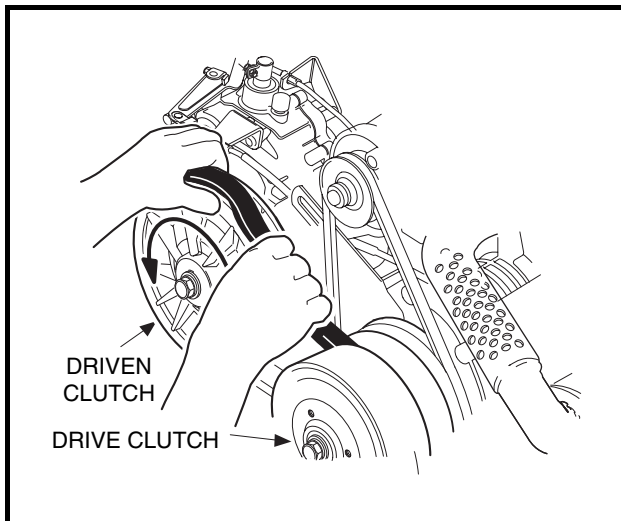

Figure 17-2 Drive Belt Removal
3. Grasp the belt midway between the drive and driven clutches. Lift upward on the belt to force the sheaves of the DRIVEN clutch apart, then roll the belt off the DRIVEN clutch by rotating the clutch counterclockwise (**Figure 17-2, Page 17-3**). See following **CAUTION**.